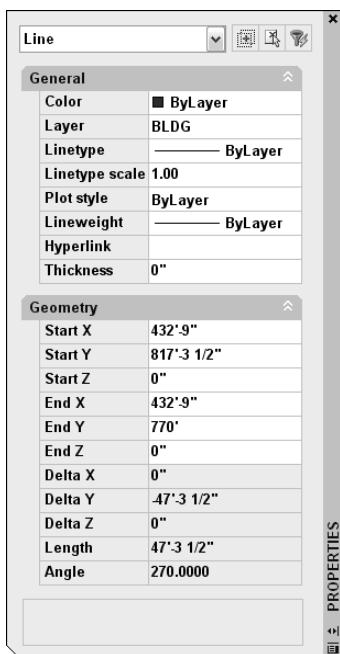

Figure 11-18: The Properties palette.
- ♦ If you want to change other properties at the same time, select the object and choose Properties from the Standard toolbar. The Properties palette opens, as shown in Figure 11-18. In this window, you can change all of the properties of the object. To change the color, choose Color and click the drop-down arrow that appears. Choose the color that you want.
- ♦ Select the object and choose Properties from the Standard toolbar. The Properties palette (refer to Figure 11-18) opens. To change an object’s linetype, click Linetype, and then click the drop-down arrow that appears. Choose from one of the linetypes.